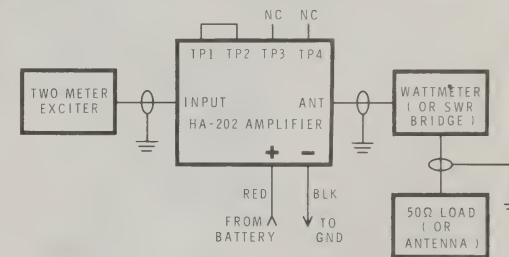

Figure 2-12
- () Interconnect your equipment as shown in Figure 2-12. Be sure to use RG-58A/U coaxial cable for all leads which carry RF.